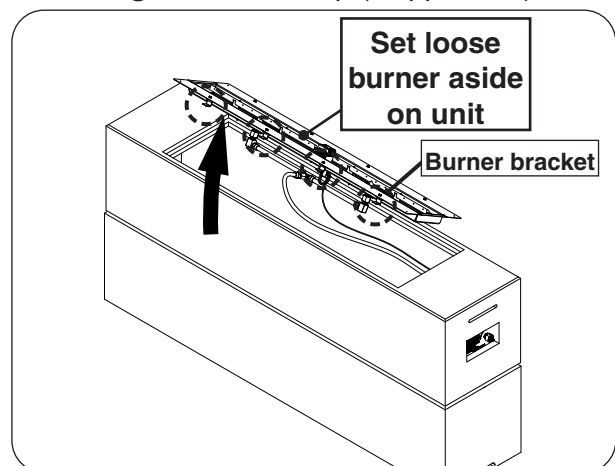

Fig. 24-3 Remove burner assembly
1. Use a $\frac{5}{16}$ " nut driver to partially unfasten the eight screws found on the burner assembly. Then carefully remove the burner and set it off to the side. See Fig. 24-3.